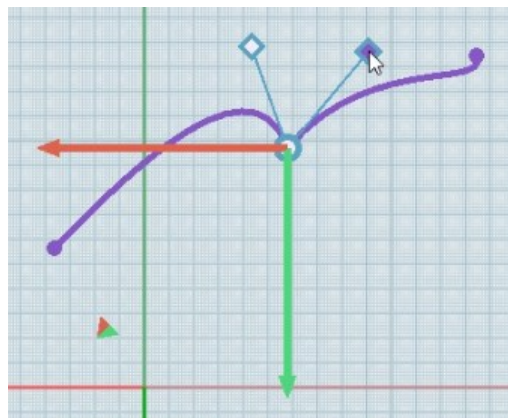

Figure 78 – Fractured controller
- **fractured** (Figure 78). If you pull the marker of one part of the controller, the length and rotation angle of only this part will change, and the second part will remain unchanged. Only the shape of the segment which is controlled by the first part of the controller will change.